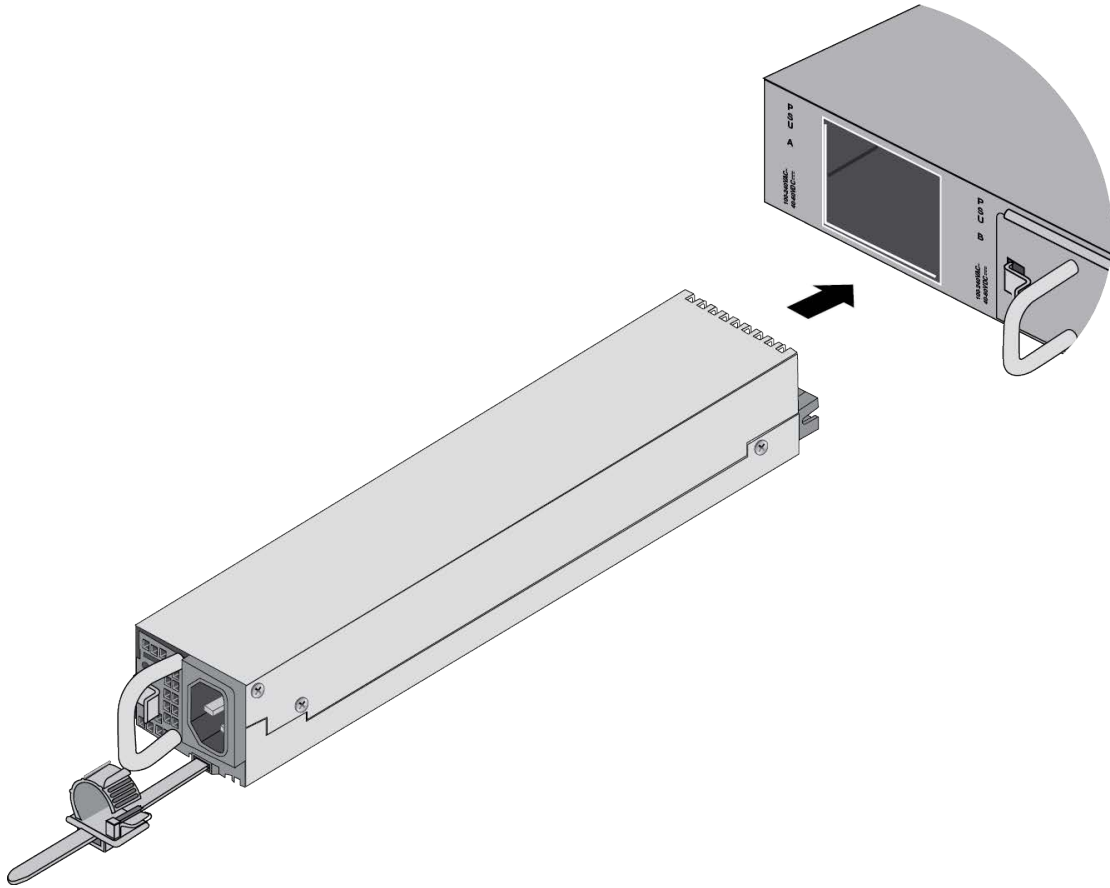

Figure 60. Sliding the PWR600 AC Power Supply into the Switch
3. Carefully align the power supply in the slot and slide it into the slot. Figure 60 shows the module aligned for the PSU A slot.